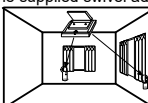

Fig. 4
- Ceiling Mounted** (for optimal results Wireless VITRON is centered and directed towards protected glass, using the supplied swivel adaptor, see fig. 4).